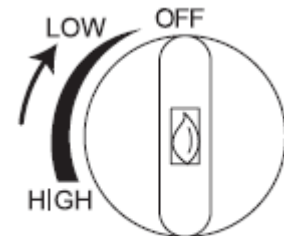

Fig. 5
1. Turn the ignition knob to shut off fuel supply (Fig 5). Wait until the flame is fully extinguished before performing the next step.